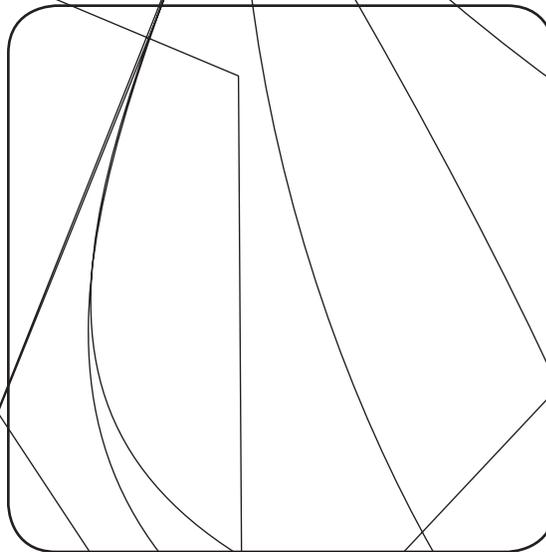

Figure 5-2
1. To remove the old rear flap, lift rear door, and press flap in on either side to remove from hole. See Figure 5-2.